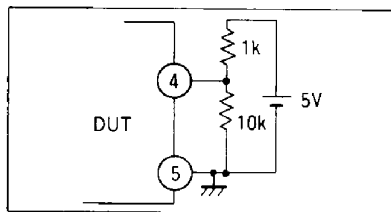

Figure 1
*2. Test with the measurement circuit in figure 1.